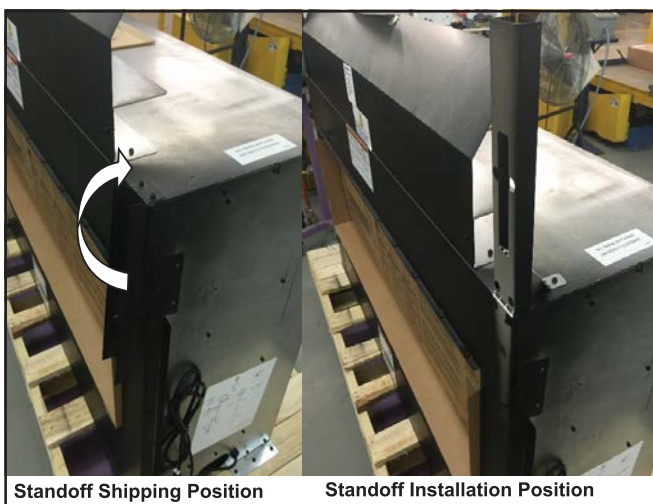

Figure 6.1 Standoffs in Vertical Position
1. Rotate the four (4) top standoffs up into vertical position. Push the standoff support tab on each standoff toward the center of the appliance and fasten it in place using the supplied screw and pilot hole. See Figure 6.1.